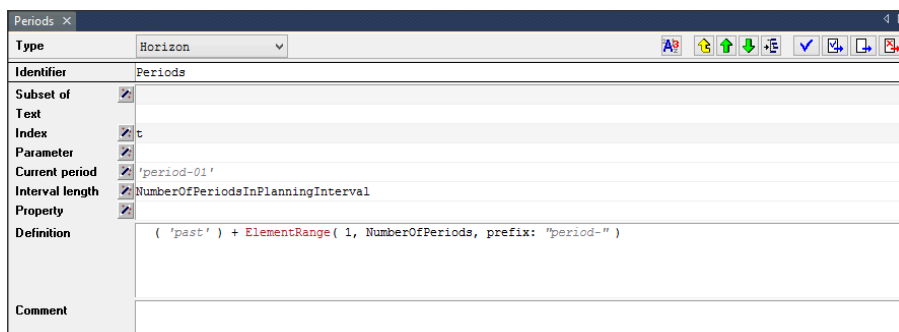

Figure 6.11: The completed attributes of the horizon 'Periods'
Consider Figure 6.11, and complete the **Definition** attribute. Again, you may want to use the name completion facility to select NumberOfPeriods as the second argument in the function ElementRange.
- ▶ type the definition as in Figure 6.11,